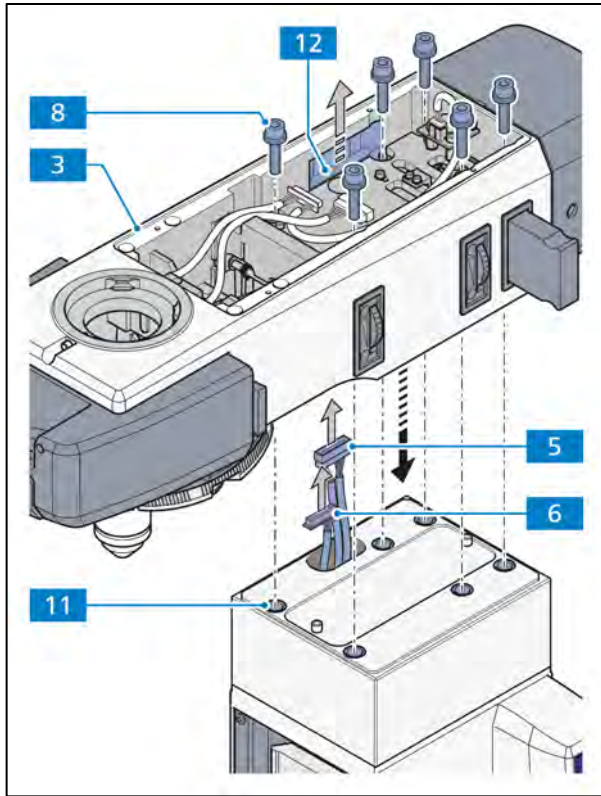

Fig. 3-57 Mounting the upper stand part on the sample space extension
- Carefully, thread the cables (Fig. 3-57/5 and 6) from the bottom through the lateral opening (Fig. 3-57/12) of the upper stand part (Fig. 3-57/3).
- Place the upper stand part on the sample space extension (Fig. 3-57/11) and tighten it with the 6 Allen screws (Fig. 3-57/8) of the upper stand part.